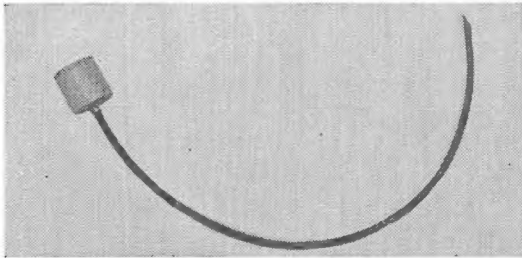

Fig. 11.—The assembled demolition set.
- (d) Take a primer. Insert the detonator into the primer so that the closed end is just short of the far end of the hole. Wedge the detonator in place with a blade of grass. **DO NOT USE FORCE.** If a Mark 1 guncotton primer is being used, enlarge the hole with the rectifier until the detonator can be inserted without forcing. The demolition set is now assembled and ready for use (see Fig. 11).